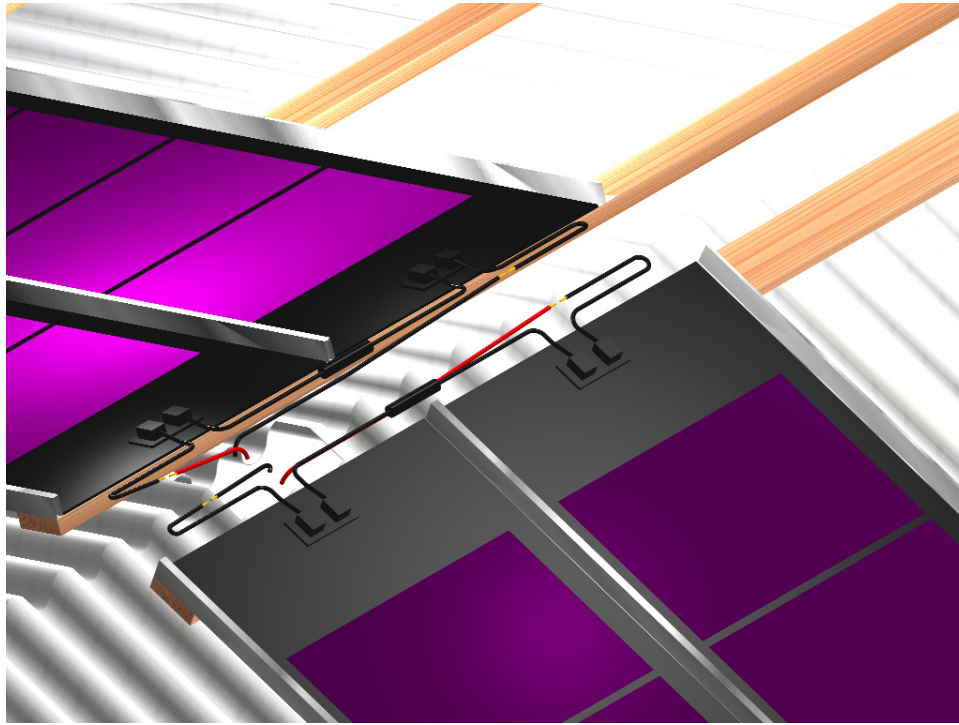

Figure 4.14: Second Panel Installation
NOTE: In Figure 4.14, the Solar Panels on the bottom (Solar Array One) the Positive is on the Right and the Negative is on the Left. The top Solar Panels (Solar Array Two) the Positive is on the Left and the Negative is on the Right.
Step 2: Cut the black connector off the Positive lead of the second Solar Panel (Array One); see Figure 4.14 on Page 4-15. In Solar Array Two, the Positive Lead will be on the first Panel.
Step 4: Cut the black connector off the Negative lead of the first Solar Panel (Array One); see Figure 4.14 on Page 4-15. In Solar Array Two, the Negative Lead will be on the second Panel.
Step 6: Run a Positive Wire (10AWG Red) up through the hole in the roof to the Positive Lead, Array One; see Figure 4.14 on Page 4-15.
- Step 6: Cut the black connector off the Positive lead of the 2-Solar Panel, Array One; see Figure 4.14 on Page 4-15.
- Step 8: Cut the black connector off the Negative Lead 2-Solar Panels, Array One; see Figure 4.14 on Page 4-15.
- Step 10: Run a Positive Wire (10AWG Red) up through the hole in the roof to the Positive Lead of the 2-Solar Panels, Array One; see Figure 4.14 on Page 4-15.